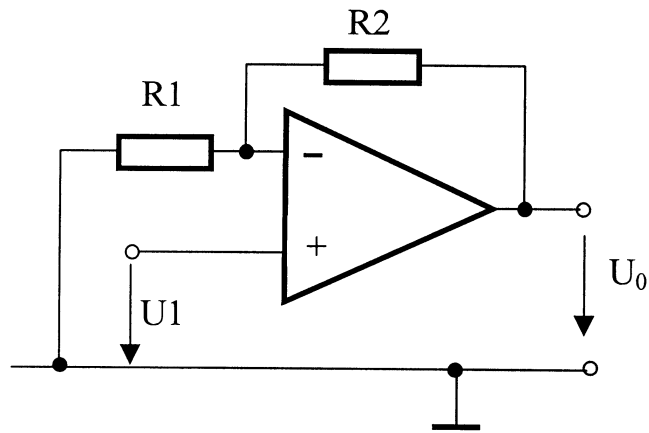

Figure 6: Electrical circuit with non-inverting amplifier.
Look at the electrical circuit with the non-inverting amplifier diagram in Fig. 6. The input voltage is applied to the non-inverting input. The inverting input is grounded via resistor R_1 and the feedback branch is connected to the same input via resistor R_2 . Think about what this circuit will do before the laboratory. The relation between the input and the output voltage can be easily deduced using the same line of thought as to the one leading to equation (1).